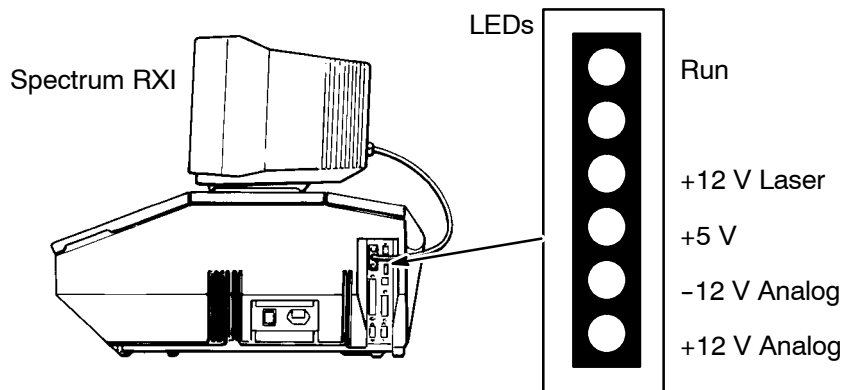

Figure 3-1 The LEDs on the Spectrum RXI
- 2 Make sure that five of the six LEDs on the right-hand side of the Spectrum RXI are illuminated. If any of the marked lights in Figure 3-1 on page 3-4 do not come on, correct the problem before continuing.
LEDs Make sure that the five marked LEDs on the right-hand side of the Spectrum RXI are illuminated before you continue. If they are not illuminated, you will not be able to diagnose problems correctly later. Figure 3-1 shows the LEDs and what they indicate.